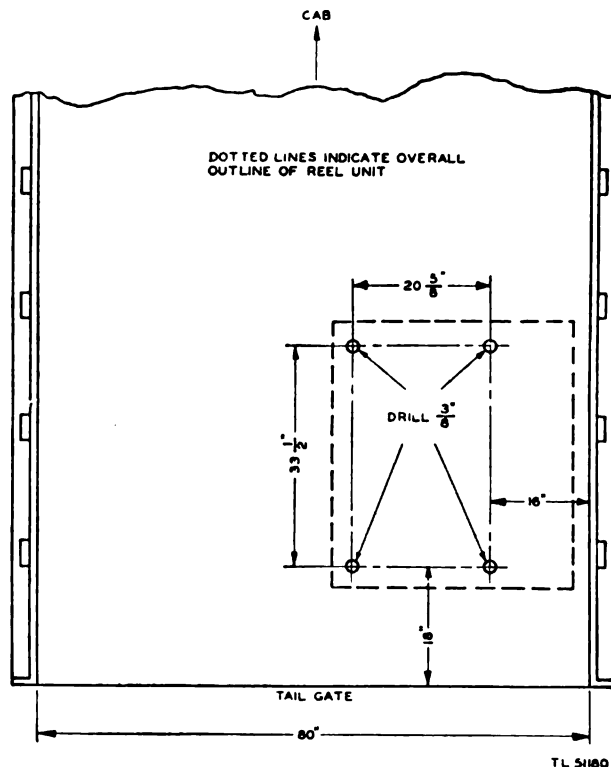

Figure 14. Mounting details on 2½-ton 6x6 cargo truck.
(1) *Installation of Reel Unit RL-26-() in 2½ ton 6x6 cargo truck.* Any of the reel units may be mounted in the 2½ ton 6x6 cargo truck. Drill ¾ inch holes in the truck bed according to the mounting diagram. (See fig. 14.) The unit is fastened to the truck bed with 5/16"-18x3" bolts.